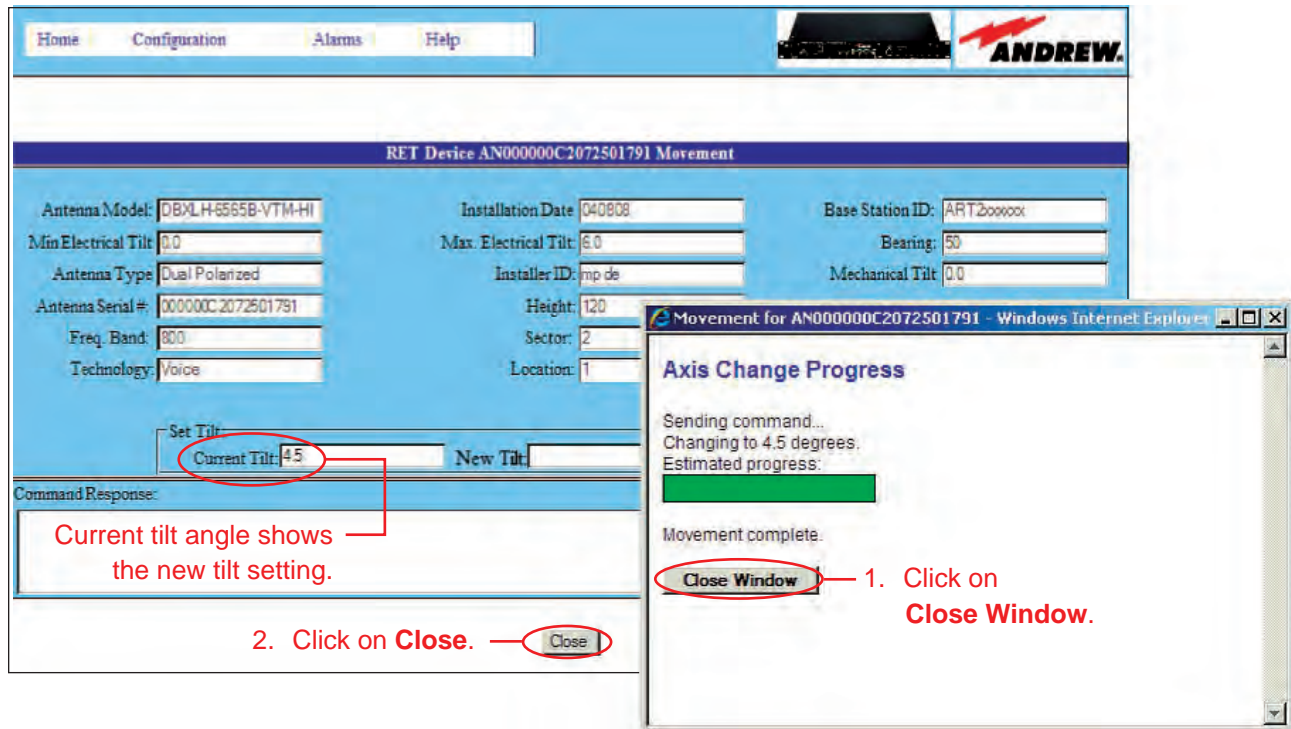

Figure 13-3. Tilt Change Complete For Single Antenna Move.
5. A progress indicator bar will appear in a pop-up window to continually provide an update for as long as the move is in progress. You will be notified when movement is complete. Click on **Close Window** from the pop-up window (Figure 13-3).
6. After the antenna has completed movement to its new tilt angle, the new angle will be displayed in the **Current Tilt** field and the **New Tilt** will be cleared in preparation for the next move (Figure 13-3).
At this point, you may click on **Close** (Figure 13-3) to return to the controller's main interface screen (Figure 13-4). Alternately, this process may be repeated to further adjust the downtilt or to reapply changes where movement had previously failed, such as a temporary mechanical jam.